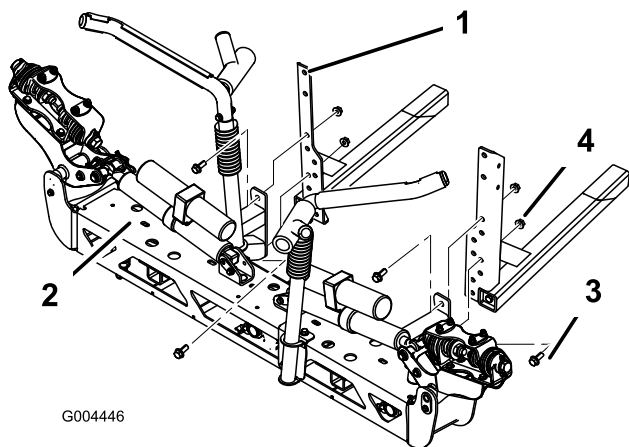

Figure 14
3. Install the center boom assembly to the uprights using 4 flange bolts (1/2 x 1-1/4 inches) and 4 flange nuts (1/2 inch) (Figure 14).